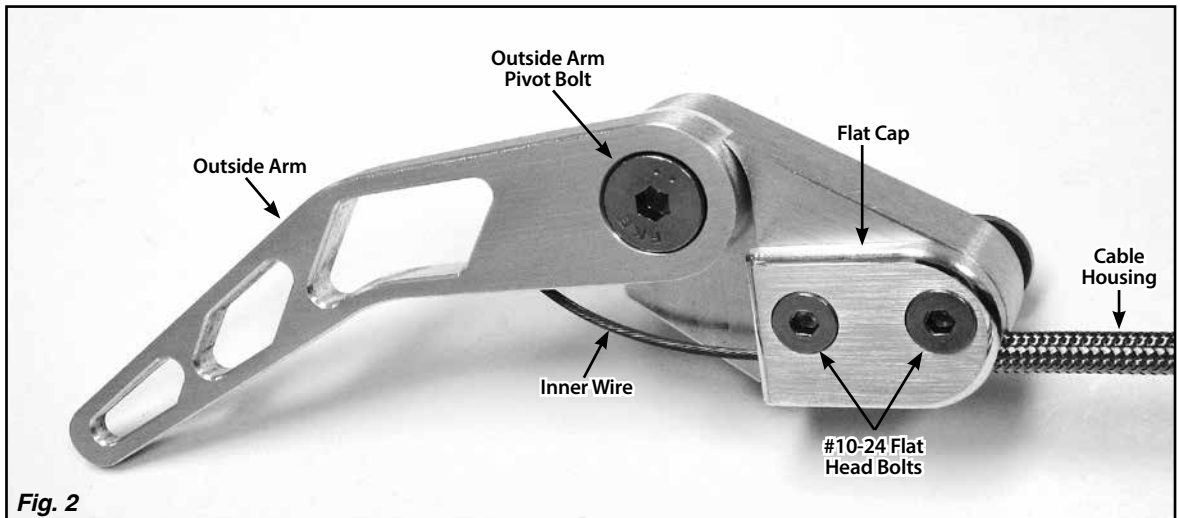

Fig. 2
Step 2: ALL: Pull the outside arm back as far as it will go. Pull the inner wire out of the cable housing, and then pull it out of the outside arm. **Fig. 2**
Step 4, (continued): If you need to mount the release handle assembly more than 24" from the hole in the firewall, a custom length inner wire and cable housing will be required. If the release handle assembly is to be mounted close to the firewall and the cable housing is too long, it may be cut to fit. Use a 3/32" Allen wrench (not supplied) to loosen the two #10-24 flat head bolts that attach the flat cap to the release handle assembly and pull out the cable housing (**Fig. 2**).
Step 8: ALL: Mount the release handle assembly at the spot you decided on earlier, using the two 1/4"-20 x 5/8" hex head bolts with flat washers (supplied), **Fig. 6**. If the release handle assembly is not at the correct angle, do not twist the cable housing! Use a 3/32" Allen wrench (not supplied) to loosen the two #10-24 flat head bolts that attach the flat cap to the release handle assembly (**Fig. 2**), twist the release handle assembly to the correct orientation, and tighten the flat head bolts.